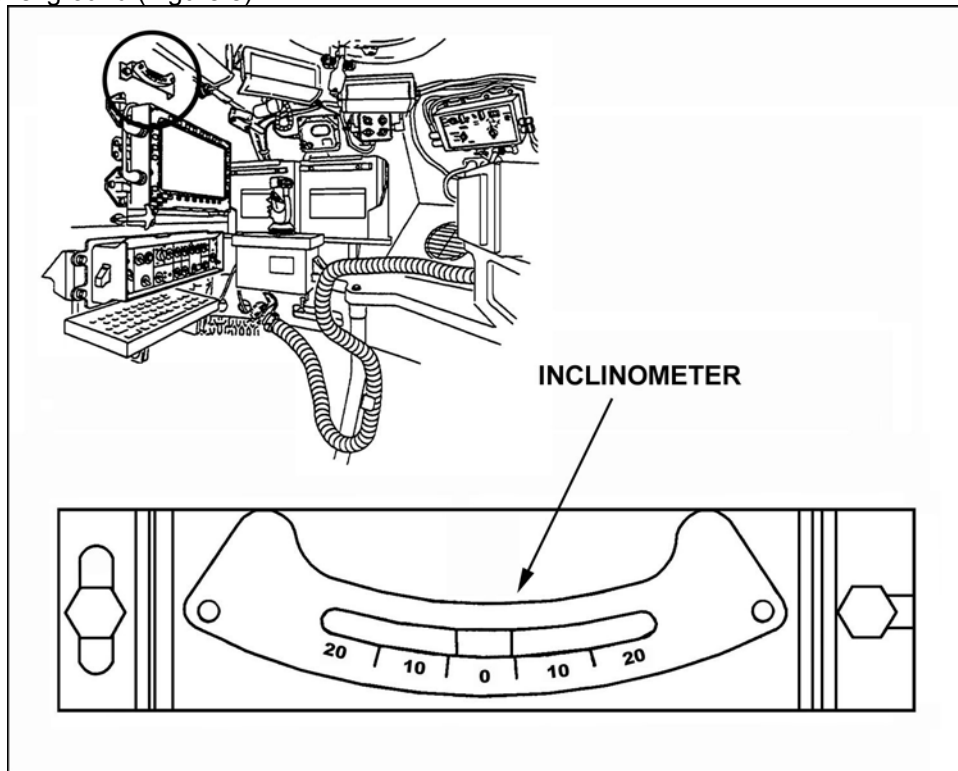

Figure 8. Inclinometer.
- (2) Squeeze and hold the GHS palm switch until the Launcher UP indicator light is lit.
- c. Check the inclinometer to ensure that the vehicle has less than 10 degrees side-slope. If the vehicle has more than 10 degrees side-slope then instruct the driver to move the vehicle to level ground (Figure 8).